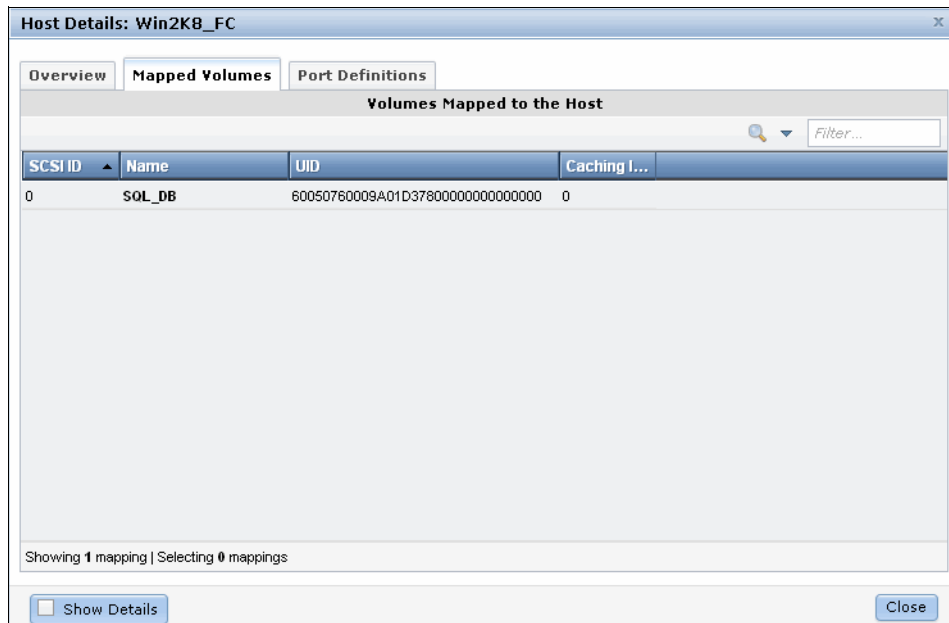

Figure 5-32 Mapped volumes to a host
2. Browse to the Mapped Volumes tab, as shown in Figure 5-32.